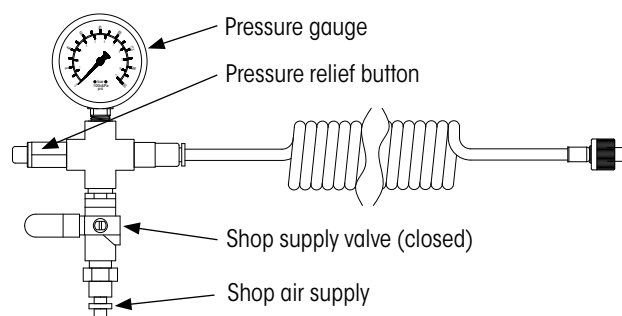

Figure 55: TIREMAAX PRO target gauge VS-32331
NOTE: The TIREMAAX PRO target gauge (Figure 55 on page 49) cannot be used in place of the CP target gauge. Fittings are not compatible.
- TIREMAAX PRO target gauge (Figure 55).
IMPORTANT: The TIREMAAX PRO target gauge (Figure 55) is required for this procedure. The PRO regulator does not self exhaust which could result in false readings.
6. **Connect** shop air to PRO target gauge shop air supply port, Figure 55.
- ii. **Use** pressure relief button on target gauge (Figure 55) to **lower** Inflation Pressure at **least 5 psi below the desired Inflation Pressure** setting.
2. **Connect** clean, dry shop air supply to PRO target gauge (Figure 55 on page 49). An air supply **at least** 15 psi above the desired cold Inflation Pressure is required.